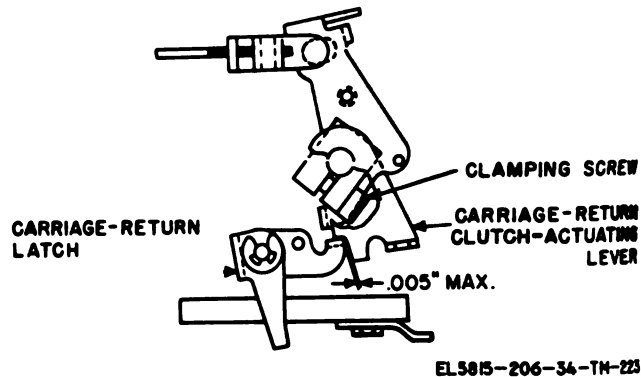
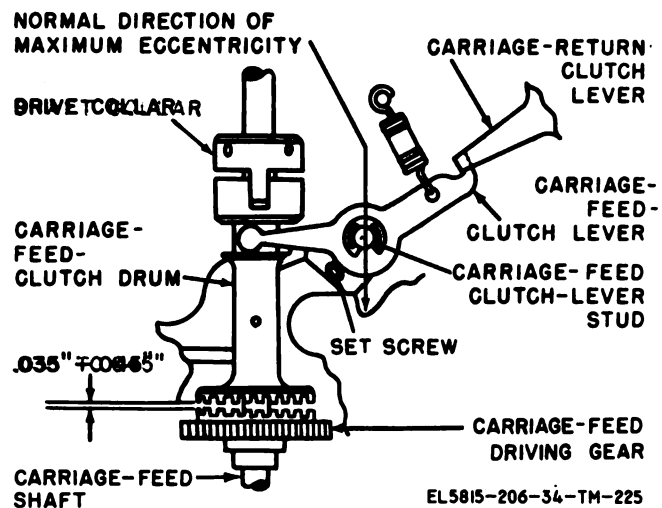

Figure 3-151. Carriage-return clutch actuating-lever adjustment (TT-4B/TG, TT-4C/TG, TT-335/TG, TT-537/G, TT-698A/TG, and TT-698B/TG ).
Figure 3-153. Carriage-feed-clutch drum adjustment.
(fig. 3-151)
b. *Method of Checking.* When the carriage is two or more spaces from the left-hand margin and the motor is off, select the carriage-return operation. Release the transfer lever and turn the motor by hand until the carriage-return clutch is fully engaged. Manually hold the carriage-return-clutch-lever (fig. 3-153) in a counterclockwise direction and check clearance with a feeler gage.
c. *Adjustment.* Disconnect the carriage-feed clutch-lever spring (fig. 3-153) and the horizontal carriage-return link (fig. 3-169). Manually hold the carriage-return-clutch members in full engagement. Loosen the clamping screw (fig. 3-151) and rotate the carriage-return clutch-actuating lever to meet the requirement (a above). Hold the carriage-return clutch-actuating lever down against the shaft collar and tighten the clamping screw. Reconnect the carriage-feed clutch-lever spring and make the carriage-return clutch adjustment (para 3-185). Check the related adjustments (para 3-199, 3-200, and 3-238).
**3-186. Carriage-Feed-Clutch Drum Adjustment (fig. 3-153)**
(3) Loosen one of the two setscrews that hold the drive collar (fig. 3-153) to the carriage-feed shaft and turn the shaft until the other setscrew in the collar is straight up. Remove the double-blocking lever spring (A, fig. 3-155) and manually disengage the carriage-feed clutch (fig. 3-153). Rotate the carriage-rack driving gear (A, fig. 3-158) until the decelerating cam (B, fig. 3-154) is set as closely as possible to the position described in a above. Engage the carriage-feed clutch and replace the double-blocking lever spring.
a. *Requirement.* The carriage-return latch-tripping arm should trip the carriage-return latch when the decelerating cam reaches the position shown in B, figure 3-154, and the carriage-feed clutch members (fig. 3-153) are aligned to mesh.